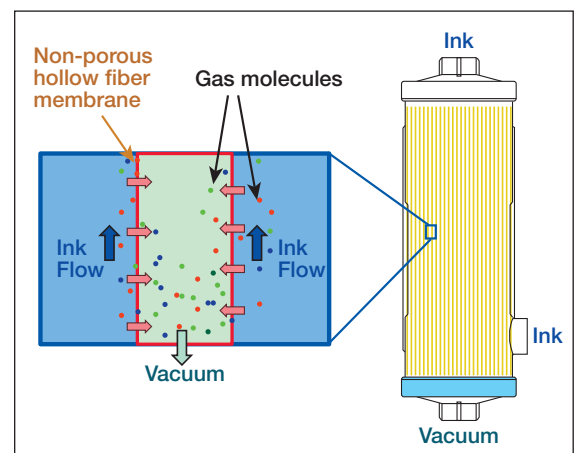

Figure 2: Schematic of fiber showing directional flow
- 3.2 Connect ink inlet/outlet and the vacuum port. (See figure 2.) Verify that connection surfaces are clean and not damaged. Make sure not to overtighten the NPT fittings.